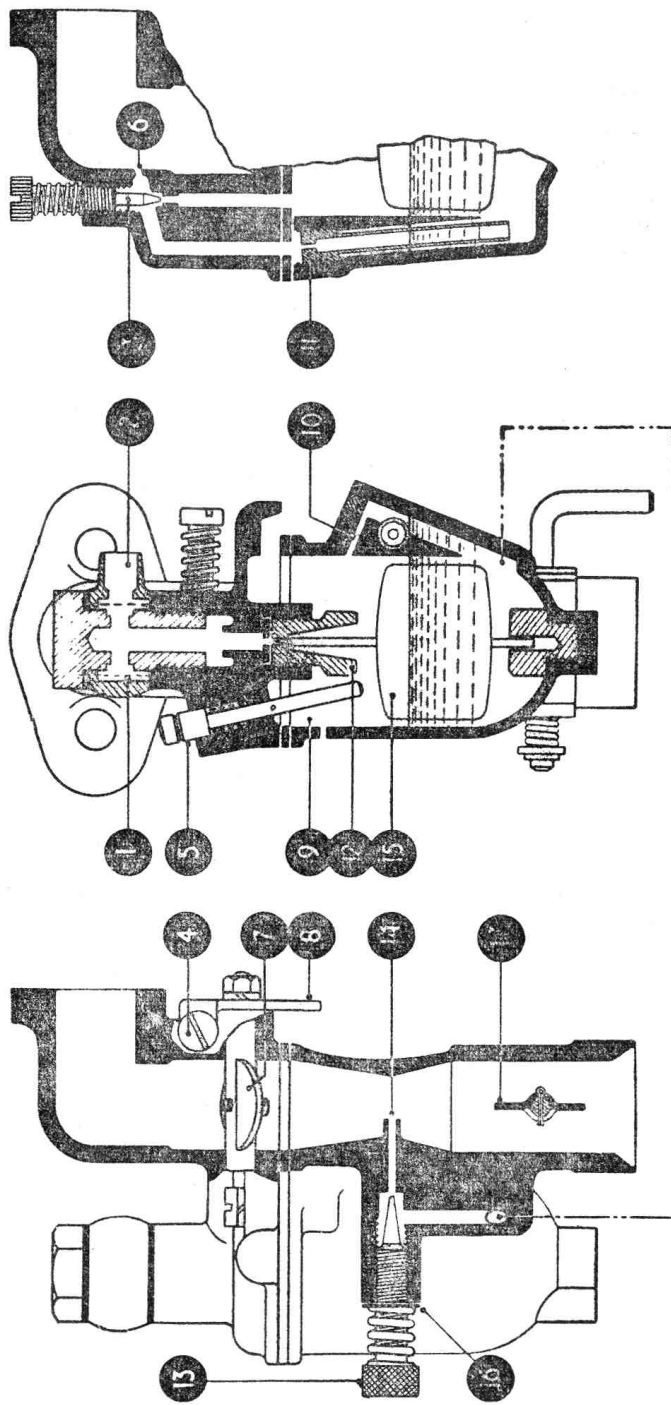

Fig. 10. 13T Carburettor.
Petrol entering the banjo fitting (2) Fig. 10, is filtered by the gauze screen (1) and passes through the combined needle and seating valve (12) into the bowl (9). The float (15) will rise and close the needle valve when the correct petrol level is reached in the bowl. A tickler or flooder (5) is provided which enables the float to be depressed, and as a result the fuel level will be raised in order to assist starting when cold. A small overflow hole in the bowl above the normal fuel level prevents excessive flooding. A small drain cock is fitted to the base of the bowl for engines running on Power Paraffin or Vapourising Oil.